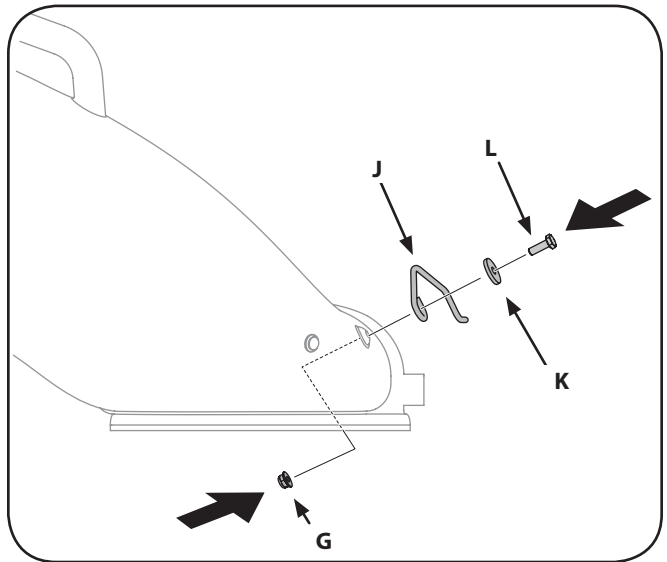

Figure 13
4. Secure the latch [J] to the chute with the hex screw [L], washer [K] and flange lock nut [G]. See Fig. 13.